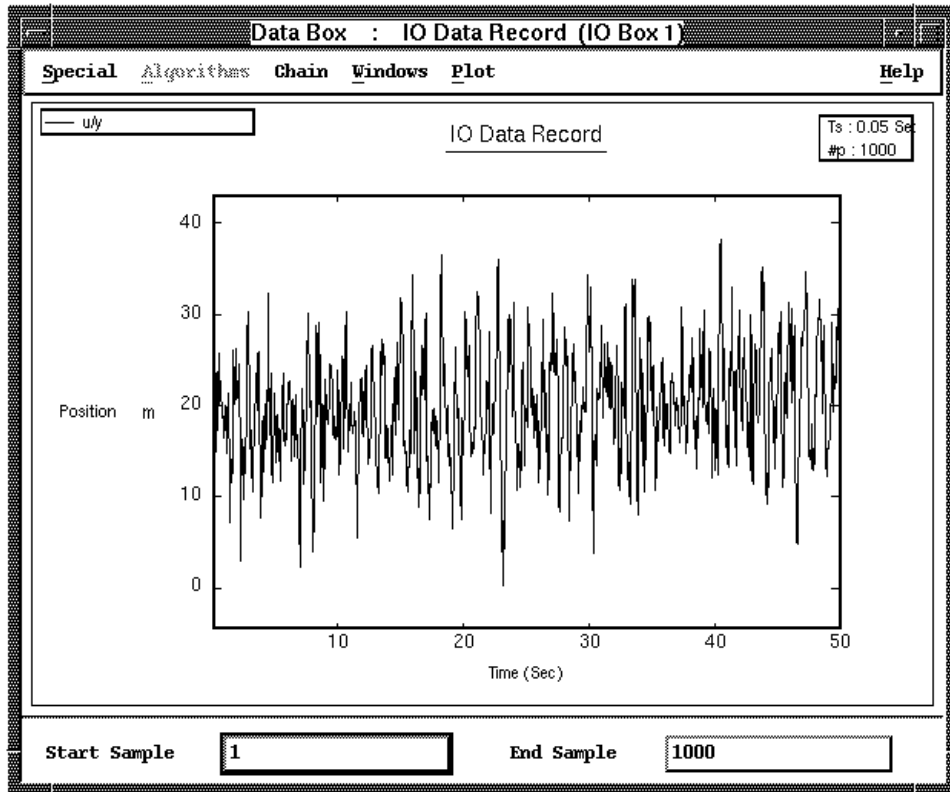

Figure 2.6 The window corresponding to the Input Output data box, with only the first output plotted.
6. Inspect the window corresponding to IO Box 1. Double click on the IO icon; the window containing the data pops up. Let us examine some of the plotting features (all algorithm plots share the same features). To look at one channel of the data, hold down the `<Ctrl>` key and click in the background of the subplot you want to see. Doing this for the first output results in Figure 2.6. To go back to the original plot, hold down the `<Ctrl>` key and click in the background. You can toggle back and forth between the two plots by holding down the `<Ctrl>` key and clicking on the title of the plot (“IO Data Record” for this plot).